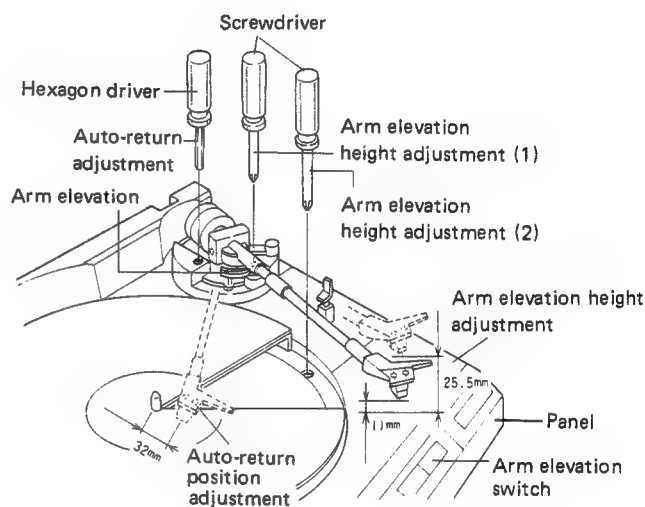

Fig. 11-5 Arm elevation height adjustment and auto-return adjustment
5. Stop turning the adjustment screw at the point at which there is a space of 32 mm between the cartridge stylus and the center shaft. (Fig. 11-5)